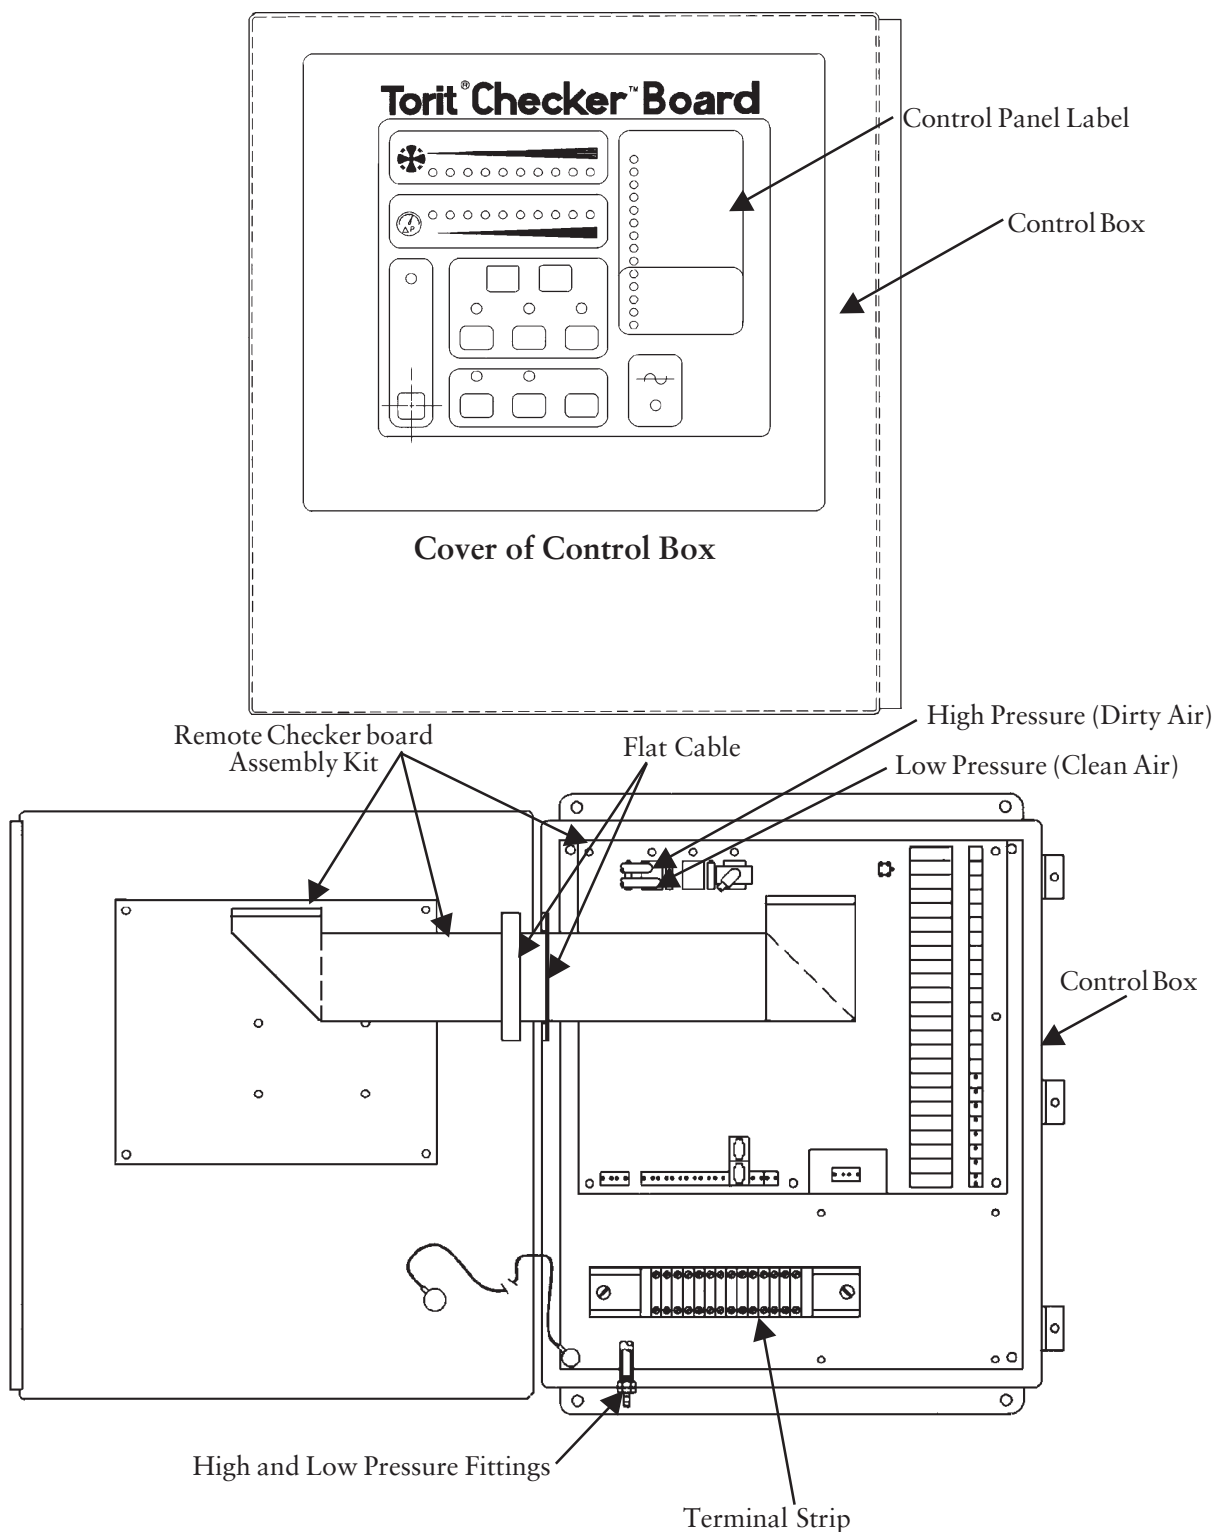

Figure 28
1. Mount the Checker board enclosure in a location convenient for the machine operator (see Figure 28 Remote Checker Board Assembly).